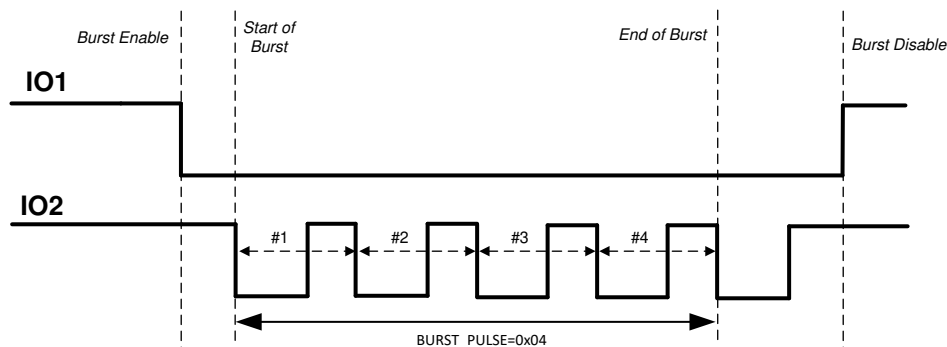

图 7-2. IO_MODE 1 Description
- **IO_MODE = 1:** In this mode, the external clock for the transducer is applied at the IO2 pin and the burst mode is enabled when IO1 pin transitions low (see 图 7-2). The device then expects a clock at IO2 pin to generate pulses on the OUTA/OUTB pins. The start of burst happens from the first falling edge of IO2. The number of pulses are counted by counting falling edge to next falling edge transitions on IO2 once the start of burst is triggered. End of burst sequence is signaled when the number of pulses defined in BURST_PULSE are sent or IO1 transitions high, whichever occurs earlier. TI recommends that IO2 is held high before start of burst to count the number of pulse correctly. After the start of burst, the state of OUTA and OUTB pins are determined by IO1 and IO2 pins. A transition of IO1 from low to high to low again is required to initiate a new burst sequence.